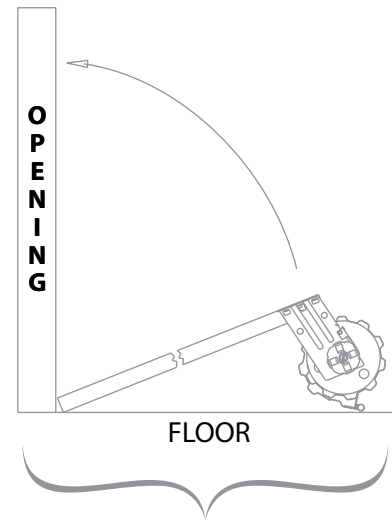

FIGURE 6
- Lift door assembly evenly, pivoting around bottom of guides. **See figure 6.**